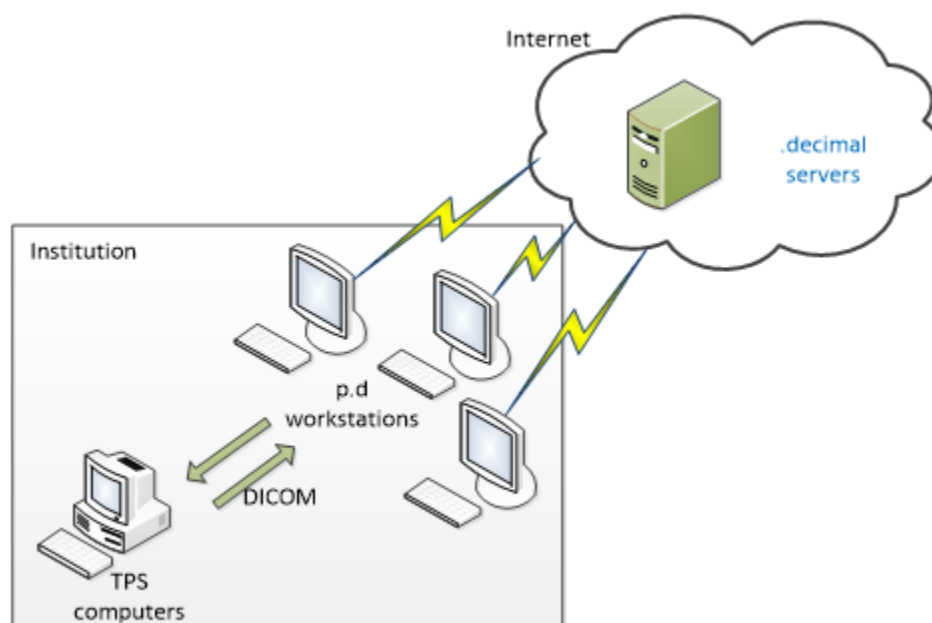

Figure 1 - p.d Communication
p.d is a locally installed software application for which the primary purpose is to enable users of various radiation treatment planning systems (TPS) to design, calculate, measure, and order patient-specific radiotherapy devices that are custom manufactured by .decimal. These devices are typically either apertures/blocks or intensity modulators / range compensators. The general software workflow is to import patient information from the TPS via DICOM, then design and/or review the required patient devices (blocks and modulators) with p.d, and finally to order the devices. Additional functions are also available to check order status, digitize scanned electron aperture images, and export data back to the TPS via DICOM, which may also be frequently used by some facilities. Figure 1 describes the communications between the p.d software, .decimal servers, and TPS computers.
As seen in Figure 1, p.d receives all information from within the local institution via DICOM file transfer. This DICOM information does include PHI and PII and p.d stores a copy of much of this information on the local computer in the protected App Data folder of the active Windows computer user. The application uses a simple database that contains no PHI or PII to reference the record files stored for each patient. These record files are stored in a proprietary format and are encrypted at rest using an AES 128-bit cipher whose key is only accessible from within the p.d software. This encryption should be considered as a secondary safety measure only and its main purpose is to prevent alteration of the data files outside of the p.d software. As such, .decimal recommends that all workstations using p.d utilize full hard drive encryption to meet general security best practices (e.g. BitLocker). Also, it should be noted that all patient critical treatment information is either already in the TPS or must be sent back to the TPS from p.d, therefore data stored by p.d should not be considered part of the authoritative patient treatment record. As such, the need to backup or otherwise include redundant copies of the p.d database is simply not necessary.